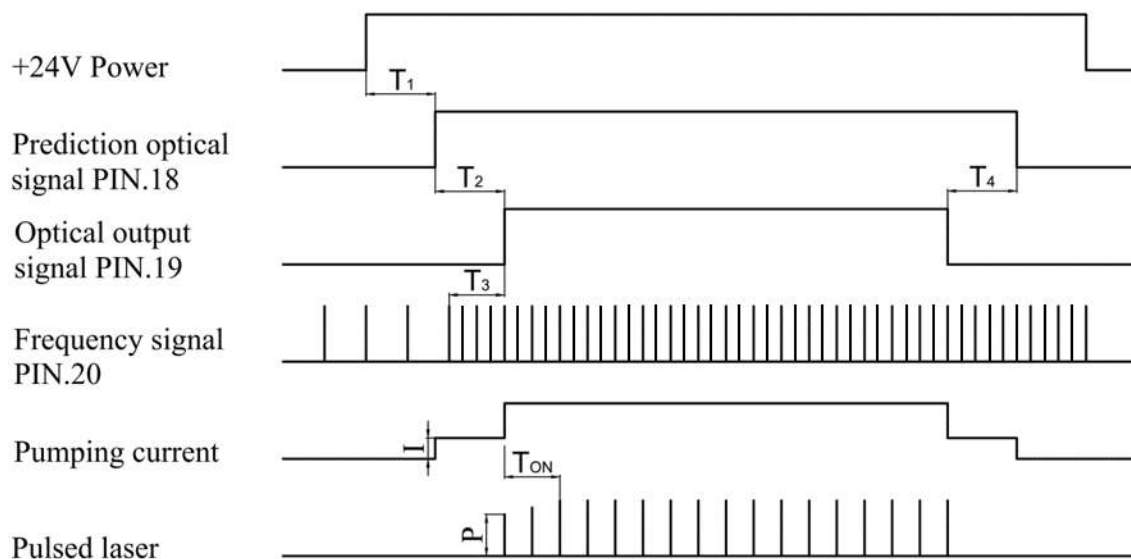

Figure 9. DB25 sequence diagram
- f) Below Figure 9. shows DB25 sequence diagram: